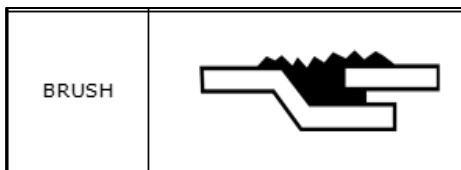

Figure 10
- Brush the seam sealer into the seam gap as shown in Figure 10